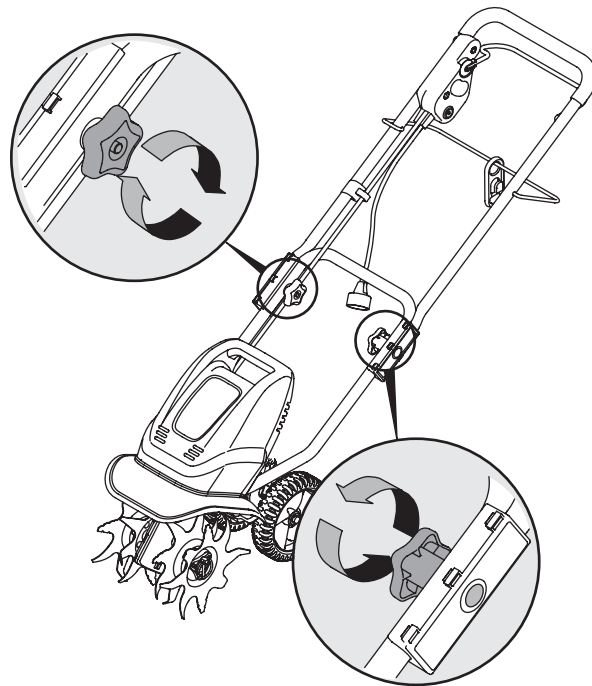

Fig. 2
3. Hold the handle in place while screwing the knobs onto the bolts (Fig. 2).